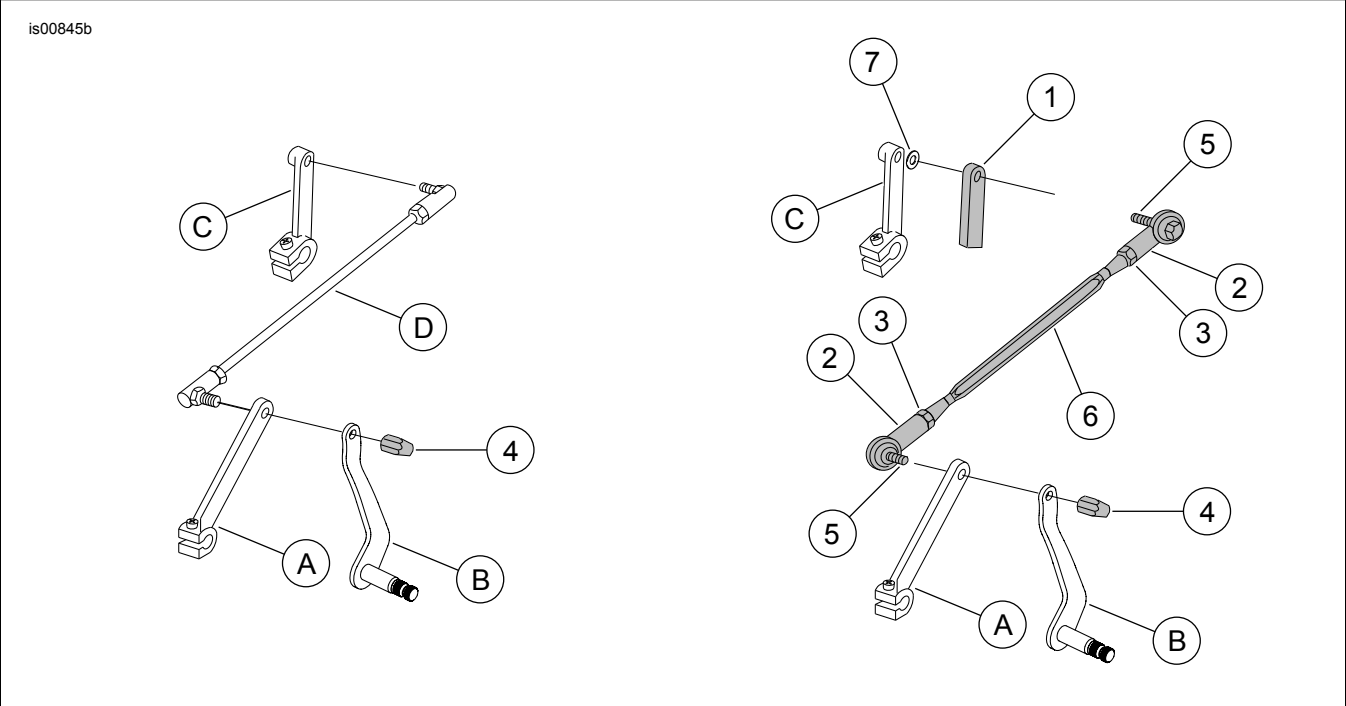

Figure 1. Service Parts: Aluminum Shifter Linkage
See Figure 1 and Table 2.
1. See Figure 1. Remove stock shifter rod (D).
2. Adjust new shifter rod in kit to match the length of the removed shifter rod by loosening locknuts (3), adjusting the length of the rod, then tightening locknuts to 27–32 N·m (20–24 ft-lbs).
3. **For models with a straight rear shifter rod lever:** Discard spacer (7). Place cover (1) over the shifter rod lever (C). **For models with an offset rear shifter rod lever:** Place spacer (7) and cover (1) over the shifter rod lever (C). Kits 33900103 and 33900134 do not include shifter rod lever cover (item 1).